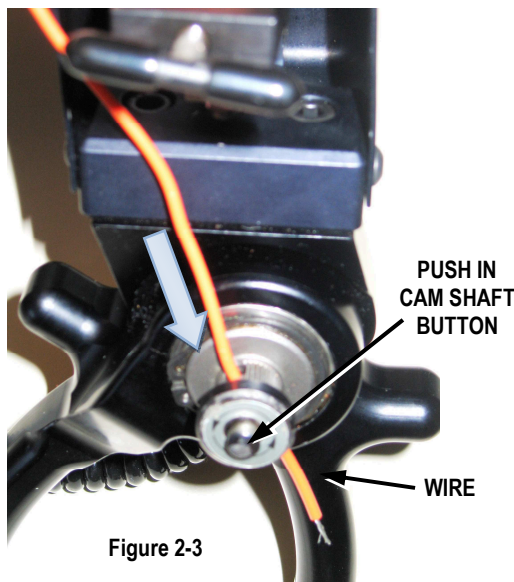

Figure 2-3
- Depress the cam shaft button, located on the center of the handles, and insert the end of the wire sample in the hole located in the cam. See Figure 2-3.